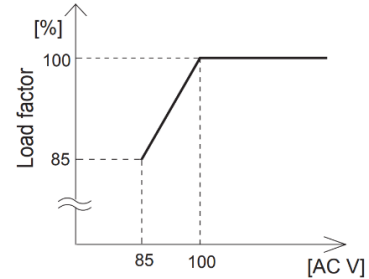

Fig. 2.1 Derating curve by input voltage
- The over current protection will be activated as following Fig.2.1.